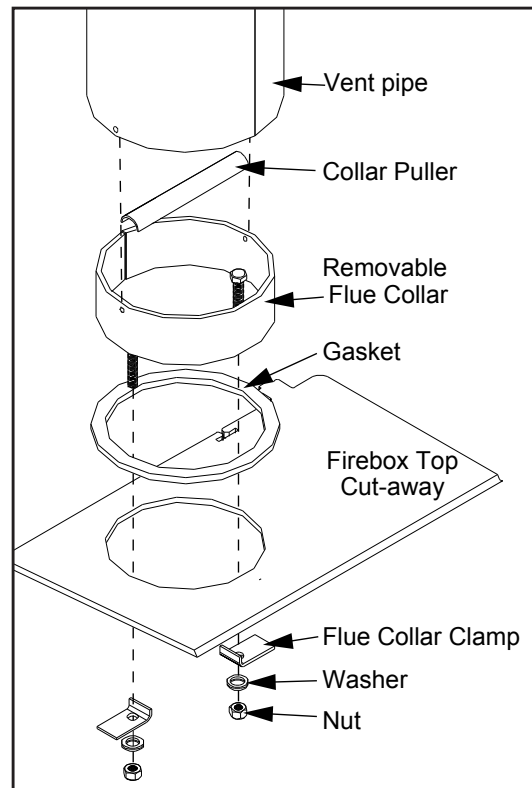
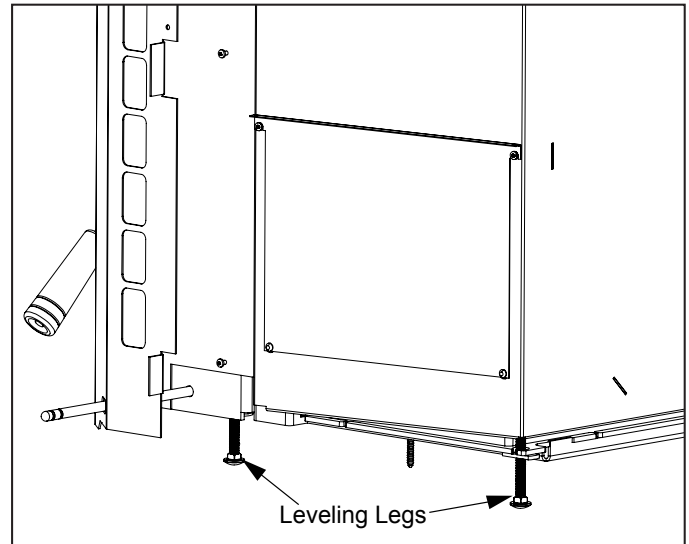

Figure 14: Attaching removable flue collar.
Figure 16: Leveling legs.
- f) Place the Collar Puller, over the two bolts of the Flue Collar and pull it into place (see Figure 14). Ensure that the bolts are to the left and right of the hole. If they are not, the front secondary air tube will need to be removed in order to install or remove the C-Cast Ceramic Baffles.
- h) Re-install C-Cast Ceramic Baffles and the rear two (2) secondary air tube (see C-CAST CERAMIC BAFFLE INSTALLATION).
- 3.** There are four (4) leveling legs (shown in Figure 16), two (2) on each side, one at the back and one at the front of the unit. Adjust the legs using a $\frac{3}{8}$ \"/>